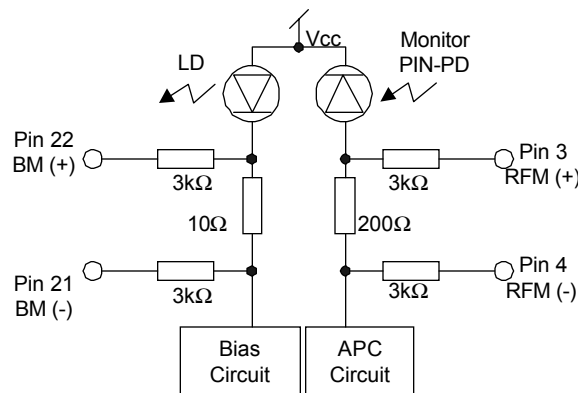

Figure 5 BM and RFM Interface
7. LD bias current can be monitored by measuring the voltage difference between BM(+) Pin 22 and BM(-) Pin 21. Please refer to Figure 5.
8. Rear Facet PD current can be monitored by measuring the voltage difference between RFM(+) Pin 3 and RFM(-) Pin 4. Please refer to Figure 5.